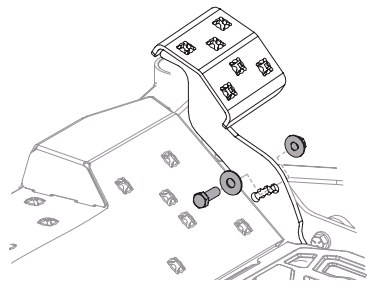

Figure 41
2. Remove the hex bolt, washer and hex nut near the center of the pedal assembly (Figure 41).
- Reinstall the hardware previously removed and torque the nut to 28-35 ft-lbs (38-47 N-m) (Figure 41 on page 28).